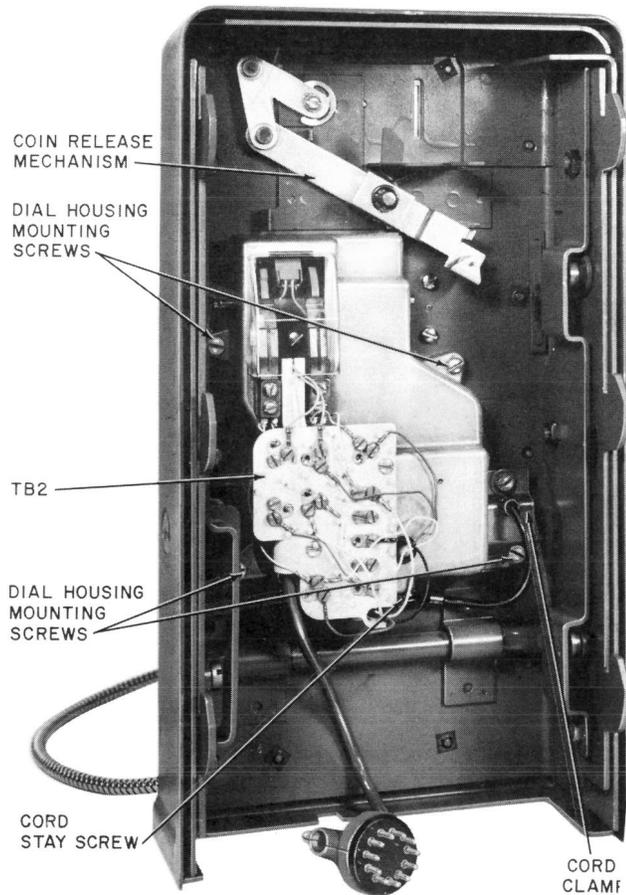

Fig. 6 — Cover Assembly
- (1) Remove four mounting screws in dial housing (Fig. 6).
- (2) Lift dial housing off.
- (1) Disconnect handset leads from TB2.
- (2) Loosen cord stay screw (Fig. 6).
- (3) Remove screw and cord clamp from armored cord.
- (4) Pull cord out front of cover.